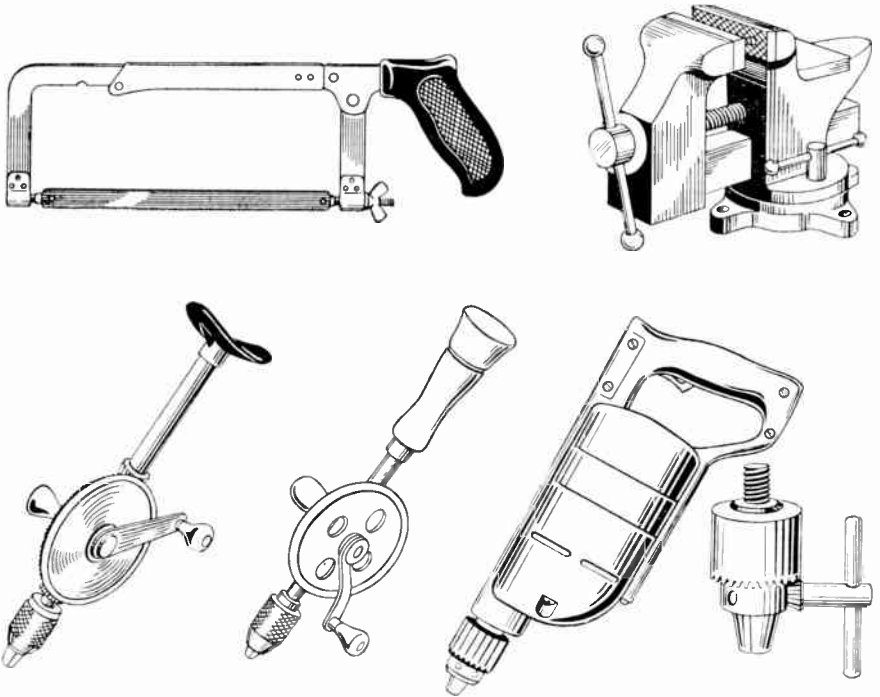

Fig. 3. Hacksaw, vise, breast drill, hand drill, electric drill, and Jacobs chuck with key, all suitable for bench use in a servicing shop
**Drill.** When replacing defective parts, it is frequently necessary to make new mounting holes. An ordinary breast or hand drill that will take up to  $\frac{1}{4}$ -inch-diameter round-shank drills is quite adequate to start with. Both types are shown in Fig. 3.
**Electric Drill.** A ¼-inch electric drill is a highly desirable substitute for a breast or hand drill. A type designed for light, intermittent duty is adequate if of a reliable well-known make. A drill with a key-type Jacobs chuck like that shown in Fig. 3 is best for your use.
Some bench tops are flush with the sides or are too thick for clamping on a vise. In this case, fasten a  $1\frac{1}{2}$ - by  $1\frac{1}{2}$ - by 4-inch block of hardwood to the side of the bench at a convenient location for clamping on the vise when needed, or get a vise that can be fastened with screws, as shown in Fig. 3.